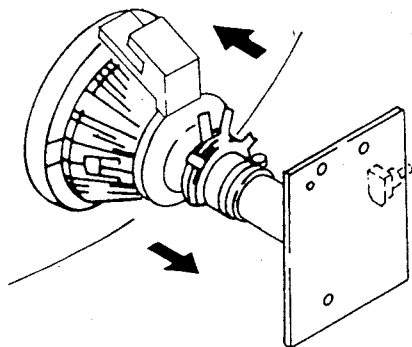

Fig. 1.
5. Move the deflection yoke forward, and adjust so that the entire screen becomes red. (Fig. 1.)